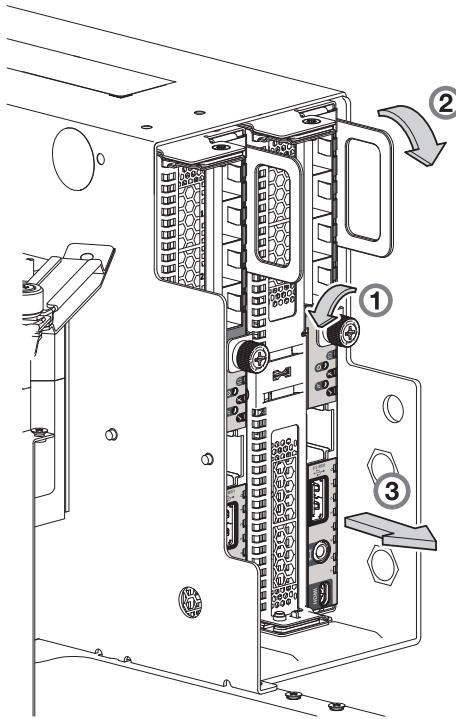
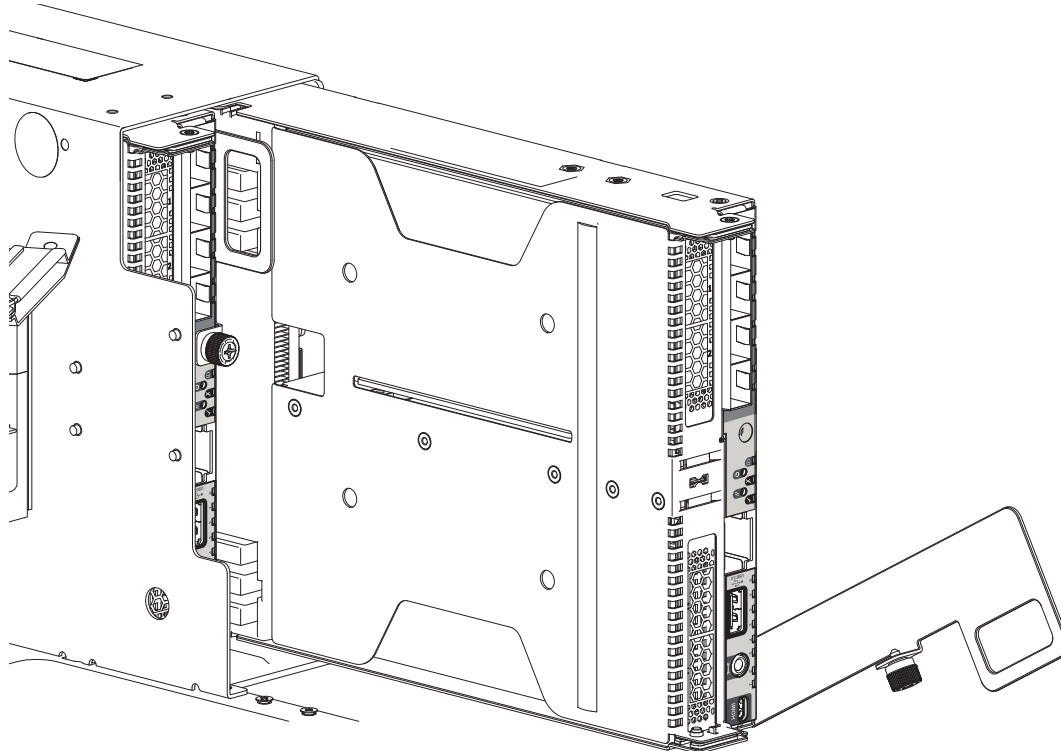

Figure 91 Removing a Controller module (1 of 2)
Figure 92 Removing a Controller module (2 of 2)
3. Unlock the Controller module latch handle by turning the thumbscrew counter-clockwise as shown in detail No.1 in Figure 91.
4. Grasp the latch handle between the thumb and index finger and pull. Revolve the handle out and downward to pull the Controller module out of the enclosure as shown in details No.2 and No.3 in Figure 91 \(page 108\).
5. Grip the latch handle and ease the Controller module forward from the slot as shown within Figure 92 \(page 108\).
NOTE: When performing the following procedure, see Figure 92 and Figure 91 \(page 108\) while ignoring the directional arrow. For installation, the Controller module will travel in the opposite direction relative to the arrow shown.